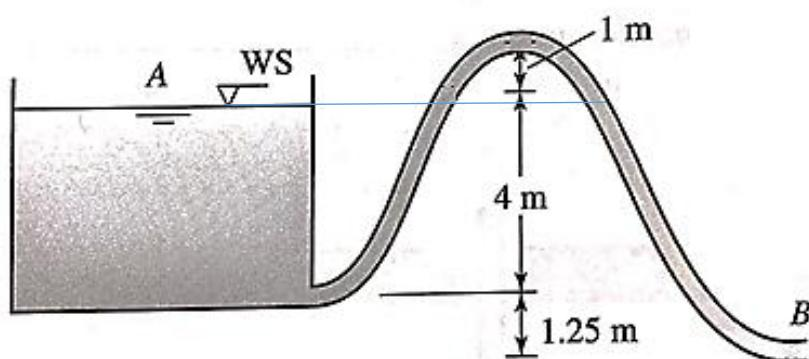

Figure 3 / Rajah 3
- (b) HDPE pipe of 250 m long with 10 cm in diameter is fitted to a water tank as shown in **Figure 3**. The water discharges into the atmosphere through a 10 cm diameter nozzle. Calculate the flow rate and the pressure at B by neglecting all minor losses in the pipe and nozzle.